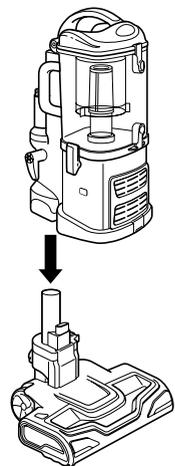

Fig. 8
- 2 Align the tube of the floor nozzle with the tube on the Lift-Away™ canister and lower until you hear the two pieces click into place. **(Fig. 8)**